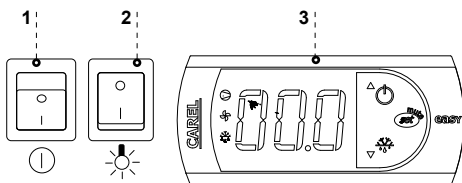

Fig.7 Control panel
- Turn on the main switch Fig.7/1, which activates the temperature regulator, and then aggregate of the device
- Set the temperature on thermostat control panel Fig.7/3
- Turn on the lighting switch Fig.7/2